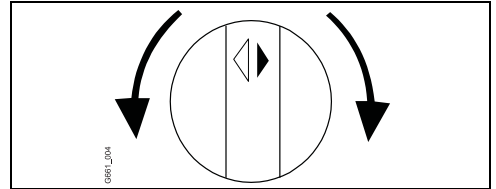

Fig. 21
- ▶ Turn anti-clockwise. Increases flow and decreases water temperature (Fig. 21).